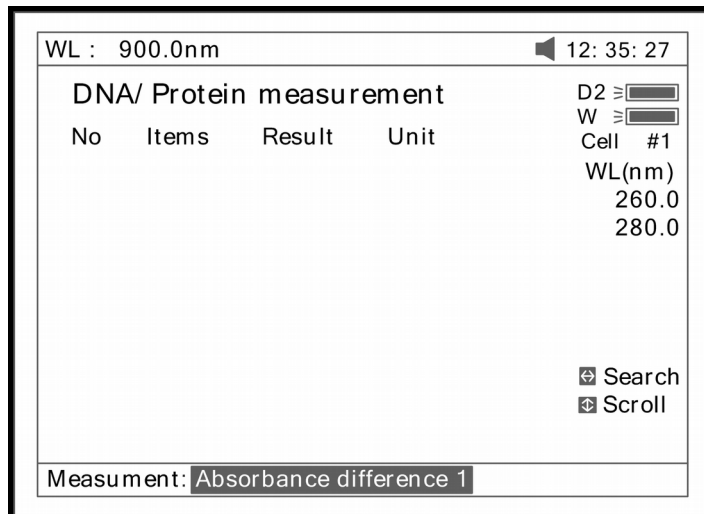
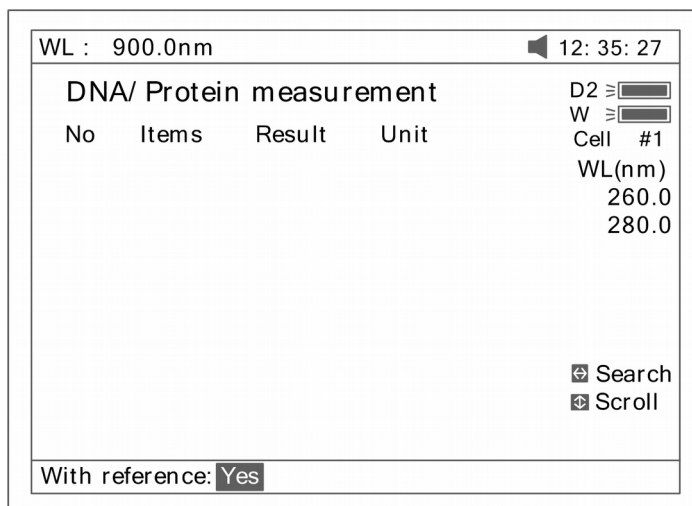

Fig 62
Fig 63
2. Press **(F2)** to select test mode. "Absorbance difference 1" is for testing at the wavelength 260nm, 280nm and 320nm (optional), and the "Absorbance difference 2" is for testing at the wavelength 260nm, 280nm and 320nm (optional, Fig 62). Then select with/without reference. If selected with reference (no), the A ref. will be "0" (Fig 63).